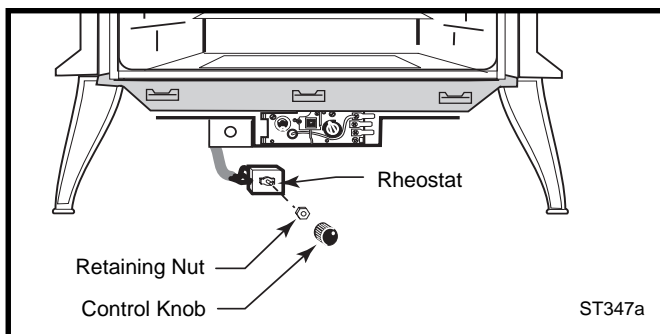

Fig. 12 Attach rheostat to control panel. Valve may look different.
6. Route the rheostat control switch and wire forward under the stove. (Fig. 12) Use the wire tie to secure the fan and rheostat wire harnesses together to the tubing under the heater.